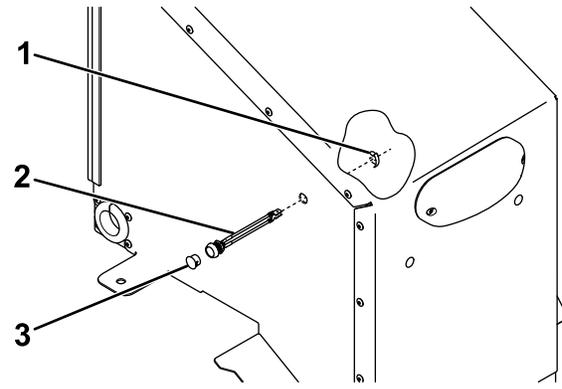

Figure 5
12. Remove and discard the plug opposite of the dump switch on the rear cover (Figure 5).
13. Insert the light button assembly through the hole and secure it in place with a retaining clip (Figure 5).